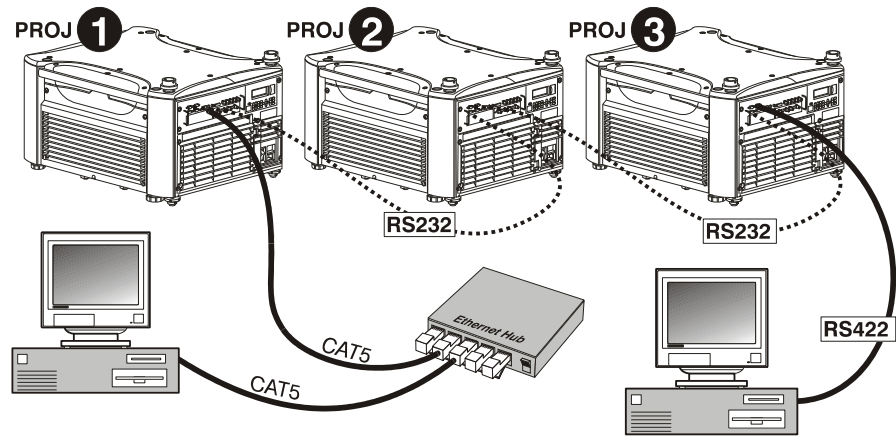

Figure 2.37. Joining All Networks
- Communicating to All Ports** ▶ To relay all messages to all ports—RS232, RS422, and Ethernet—set the “Network Routing” option in the *Communications* menu for each projector to “All Joined”. This configuration is useful if you are using a non-RS232 controller with the RS232 linking available between these projectors. For example, you may want to use both an RS422-compatible controller and an Ethernet-connected PC for working with a network of projectors linked via their RS232 in/out ports (Figure 2.37).
To isolate just RS422 communications, select “RS232 and Ethernet Joined”. In Figure 2.37, only projector #3 will respond to the RS422 controller. To isolate just Ethernet communications, select “RS232 and RS422 Joined”—only projector #1 will respond via Ethernet.